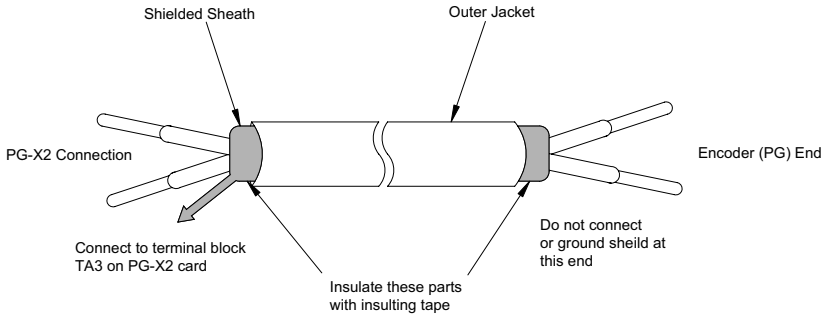

Fig. 5 Shielded Wire Termination
- Use a shielded wire to connect the encoder (PG). Connect the wires as shown in *Fig. 5* to prevent noise interference. The wire distance must be 328 ft. (100 m) or less.
- If the PG signal is affected by noise, disconnect the grounding lead wire (E) from the grounding terminal (G5: 12 (G), G7 or F7: E (G)) of the control board of the Inverter. Alternatively, change the location of the shielded sheath connection.